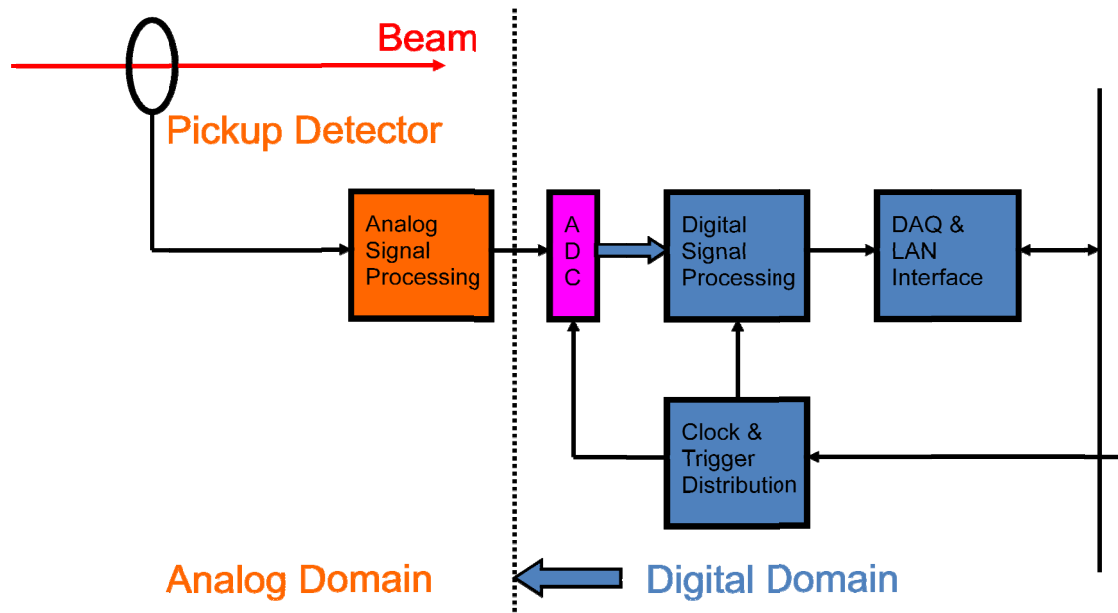

FIGURE 1. Schematic of a typical beam instrument, e.g. BPM, toroid, WCM, PMT, etc.
Fig. 1 illustrates a typical beam instrument used in a particle accelerator, consisting out of a pickup detector (often part of the beam pipe vacuum system), an analog front-end (Analog Signal Processing), and several “digital” blocks including the analog-digital converter (ADC). Before spending lots of funds in money and time for purchasing and working with a sophisticated circuit & system analysis software
- As Fig. 1 indicates, the borderline between analog and digital domain in the signal processing chain is pushed further and further towards the detector, and this trend will remain.